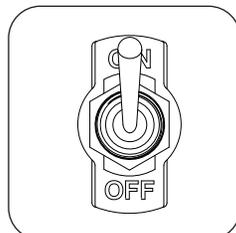

Fig. 27-2 Toggle switch
2. Flip the toggle switch to **ON** to ignite the burner (see Fig. 27-2). The valve will open and the burner will light.
To shut down the main burner (pilot will remain lit), flip the toggle switch to **OFF** (see Fig. 27-2).